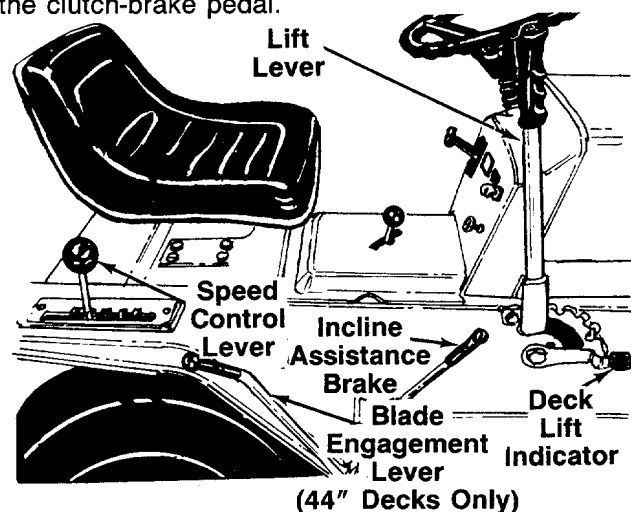

FIGURE 10.
The speed control lever is located on the right fender. It allows you to regulate the ground speed of the lawn tractor. See figure 10. To select the ground speed, depress clutch pedal. Push speed control lever outward and move backward to slow lawn tractor, move forward to increase speed. When desired speed has been obtained, release lever in that position. Whenever clutch is engaged, unit will automatically go to the pre-set speed.
When stopping on a hill, hold the incline assistance brake lever back while you release the clutch-brake pedal until the lawn tractor begins to move, then release the lever. This lever permits smoother starts and clutch engagement by holding the tractor during the brake release/clutch engagement operation. See figure 10.
The lift lever is located on the right side of the unit. It is used to raise and lower the cutting deck and other attachments. Move the lever to the right, then forward or backward to the desired position and release. See figure 10.
The deck lift indicator marks the position being used for the lift lever. Select the lift lever position desired, press the indicator lever outward, move it to the position immediately below the lift lever and release the indicator lever. See figure 10.
3. Place the blade engagement lever (if so equipped) or lift lever in the DISENGAGED position. (See figure 10.)